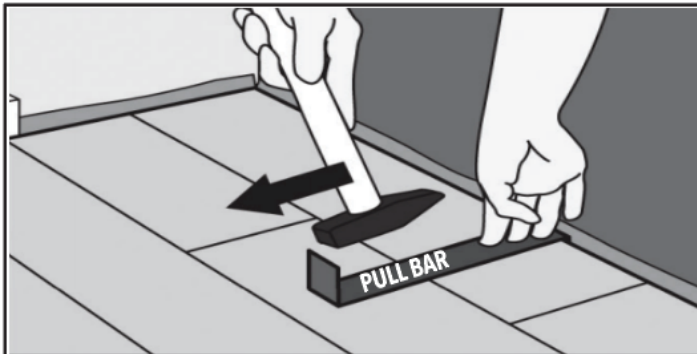

FIGURE 5A
11. Homestead JetCore is unique in that difficult areas they can be installed with a pull bar or tapping block and rubber mallet. Use of a pull bar and rubber mallet to lock the joints together in the last row may be necessary. Always use a pull bar on the cut edge of the plank. Factory edges can be damaged if the pull bar is used directly against them. (Refer to Figure 5A and 5B)
POSSIBLE AREAS OF DIFFICULTY: THE LAST ROW AND WHEN FITTING AROUND DOOR TRIM. WHEN FITTING AROUND A DOOR TRIM IT WILL BE NECESSARY TO SLIDE THE PLANK UNDER THE TRIM. THIS CAN BE ACCOMPLISHED EASILY BY STARTING THE ROW ON THE SIDE OF THE ROOM WITH THE DOOR TRIM AND THEN SLIDING THE PLANK INTO PLACE ONCE IT IS ATTACHED. THE ROW CAN BE COMPLETED BY INSERTING THE TONGUE INTO THE GROOVE OR THE GROOVE INTO THE TONGUE DEPENDING ON THE DIRECTION. A SPECIAL UNILIN® APPROVED TAPPING BLOCK AND PULL-BAR CAN ALSO BE USED TO LOCK THE JOINTS TOGETHER WHILE THE PLANKS ARE IN A FLAT POSITION. USE A SERIES OF LIGHT TAPS UNTIL THE JOINT IS GRADUALLY LOCKED TOGETHER. (REFER TO FIGURE 5A AND 5B)